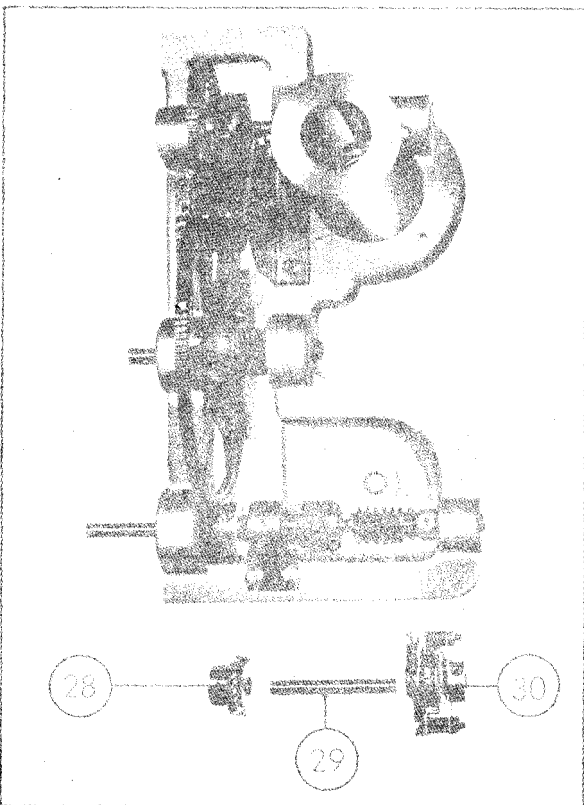
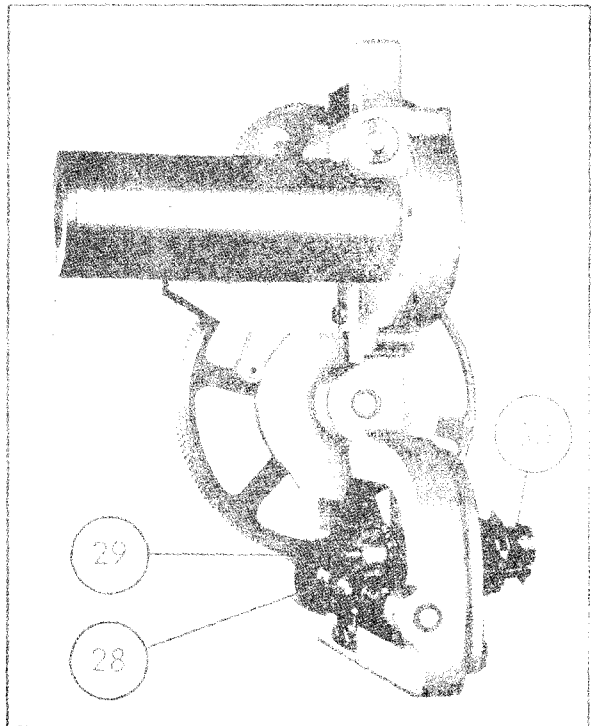

Figure 4-20. Parts Comprising Potentiometer Drive
Figure 4-22. Oblique View Showing Potentiometer Drive Assembled
Figures 4-20 and 4-21 show the assembly of the drive worm gear (28), shaft (29), and coupler (30) for potentiometer R-173. It is necessary to mate the worm gear with the worm before inserting the shaft through the gear hub and casting. The hub of the gear should point away from the casting as shown in figure 4-22. The shaft is flattened on one end and the single set screw in the hub of the coupler should be tightened on this flat. The set screws in the worm gear and coupler should be tightened so that there is less than 0.002 inch end play in the system and so that there are no binds. It is important to make certain that the worm gear mates properly with the worm itself.